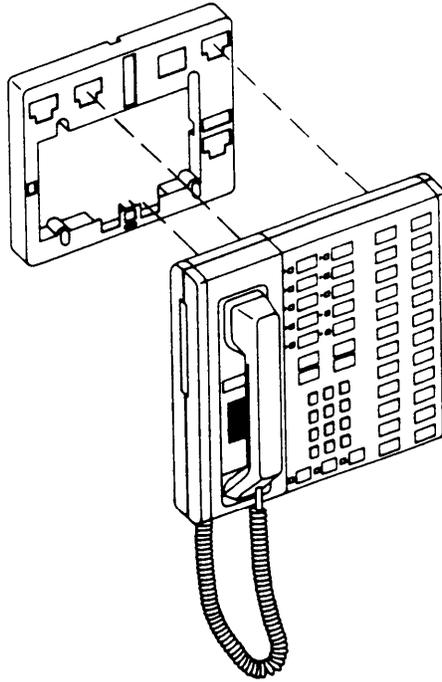

Figure 10
- Gently slide the voice terminal downward so the three tabs fit into the smaller part of the corresponding mounting slots (see Figure 10).